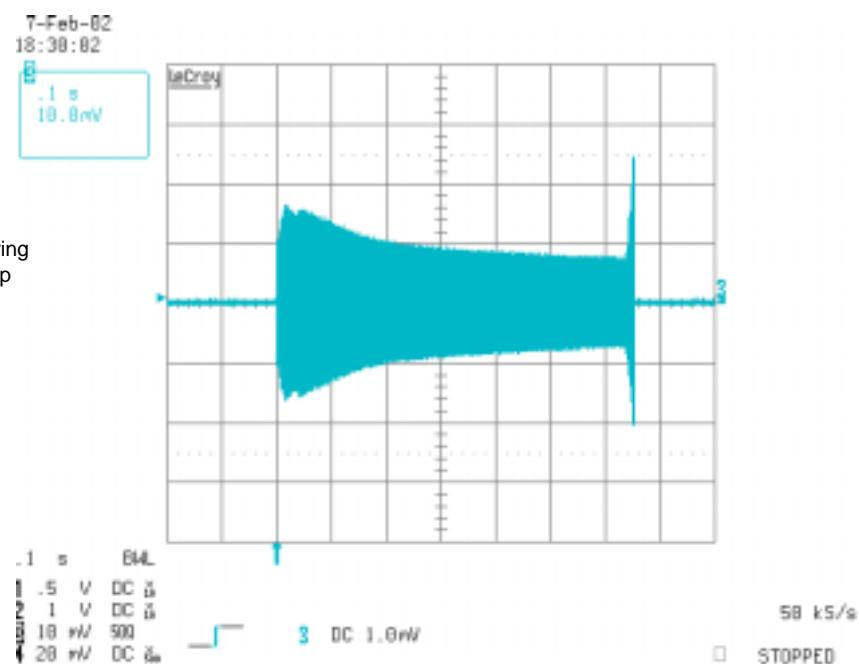
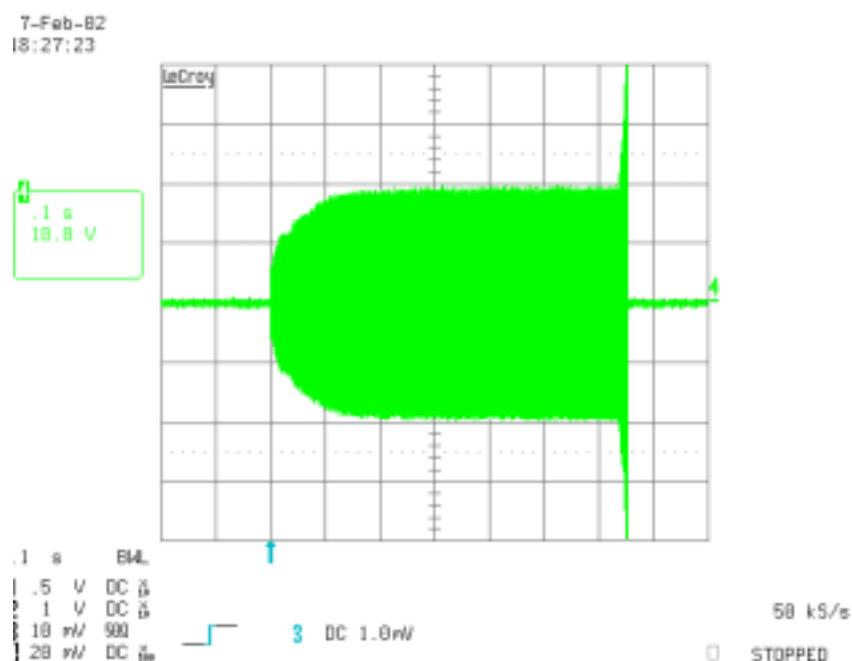

Figure 2:
Figure 3:
When the ballast reaches the end of the UVLO mode, the Preheat mode is entered. At this point the ballast control oscillator of the IR2167 has begun to operate and the half-bridge output is driving the resonant load (lamp) circuit. The ballast control section oscillator of the IR2167 is similar to oscillators found in many popular PWM voltage regulator ICs and consists of a timing capacitor and resistor connected to ground. Resistors RT and RPH program a current which determines the ramp up time of capacitor CT and resistor RDT determines the ramp down time. The downward ramping time of CT is the dead time between the switching off of the LO (HO) and the switching on of the HO (LO) pins on the IR2167. The Preheat mode frequency of oscillation is selected such that the voltage appearing across the lamp is below the minimum lamp ignition voltage while supplying enough current to preheat the lamp filaments to the correct emission temperature within the Preheat mode period. The preheating of the lamp filaments is performed with a constant voltage during the Preheat mode. The waveform in Figure 2 shows the lamp filament current while Figure 3 shows lamp filament voltage during the normal Startup, Preheat and Ignition Ramp modes of the ballast.